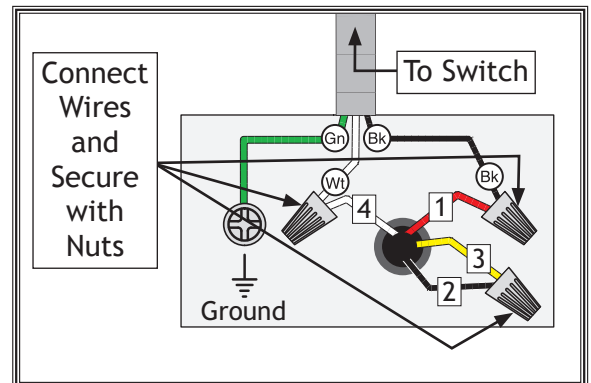

Figure 7. Motor rewired to 240V.
4. Use wire nuts to connect wires as indicated in **Figure 7**. Twist wire nuts onto their respective wires and wrap them with electrical tape so they will not come loose.